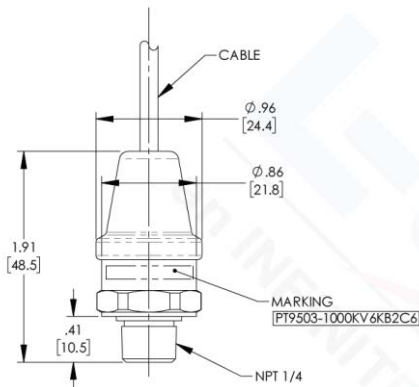

Fig. 1
4.2.1 Cable Connection Type Outline Dimension (See Fig.1)